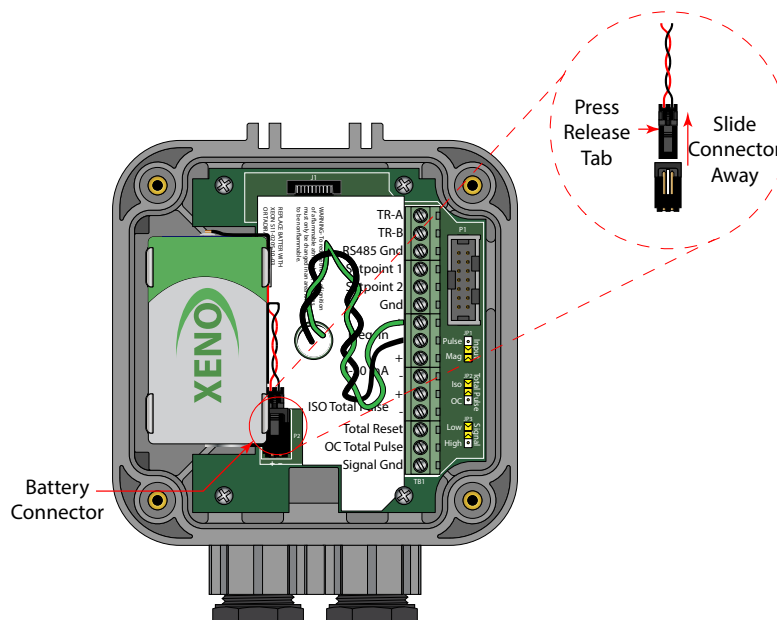

Figure 18: Battery connection release.
- Press the tab on the battery connector to release it from the circuit board (see Figure 18).